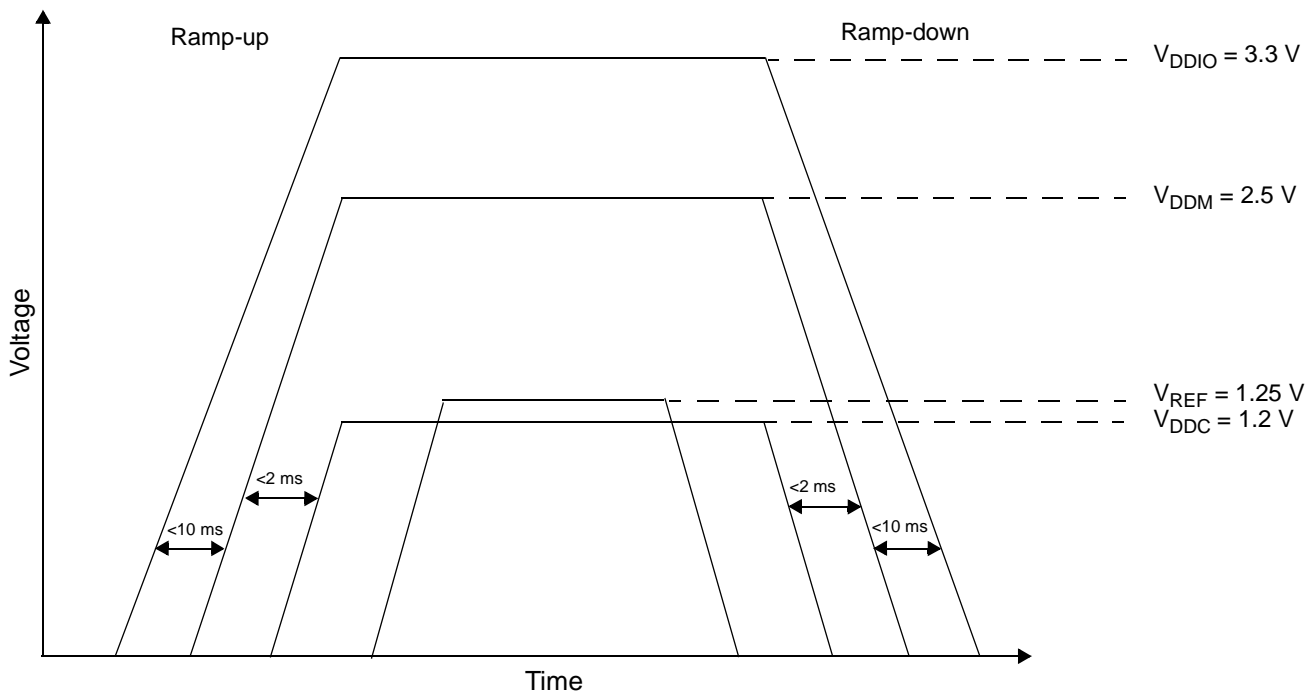

Figure 34. Voltage Sequencing Case 5
- Refer to **Figure 34** for relative timing for power sequencing case 5.